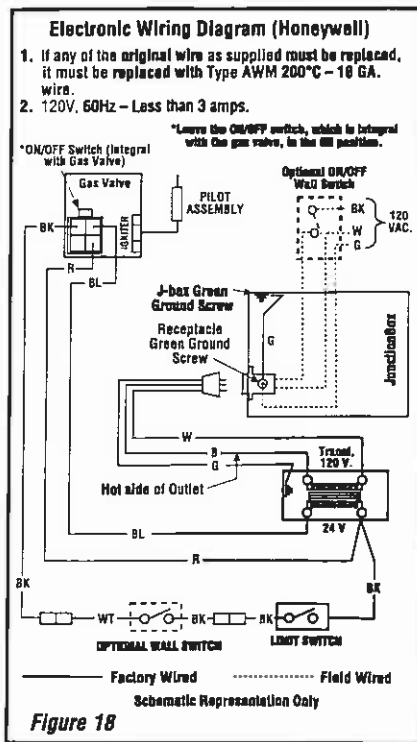

Figure 18
(See *other figures 18 on page 9*) –
1. Remove the junction box cover (*Figure 16*) by removing the hex head screw. The junction box cover has a 7/8 inch (22mm) knockout hole for a conduit busing. Route a 3-wire 120Vac 60Hz 1ph power supply to the appliance junction box (*Figure 18 on page 9*).
**Note:** The gas valve-mounted ON/OFF switch is shown in *figure 18 on page 9*. It is integral with the gas valve and should be set to the ON position.
5. Wire the wall-mounted ON/OFF control switch in the the low voltage circuit using the 18 feet of 2 conductor wire supplied with the unit as shown in *Figure 18 On page 9*.
**IMPORTANT:** Ground lead must be connected to the green screw located on the outlet box. See Figure 18. Failure to do so will result in a potential safety hazard. The appliance must be electrically grounded in accordance with local codes or, in the absence of local codes, the National Electrical Code, ANSI/NFPA 70-(latest edition). (In Canada, the current CSA C22-1 Canadian Electrical Code.)